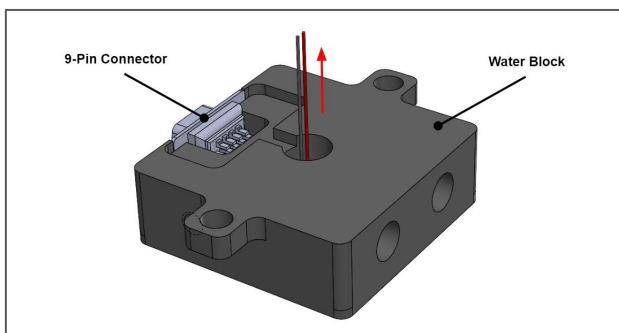

Figure 4. Wire Connections
As shown in Figure 4, feed the diode wires and the thermistor wires through the center hole of the Water Block (3) and connect to the 9-pin connector following the pin-out chart in Section 2.